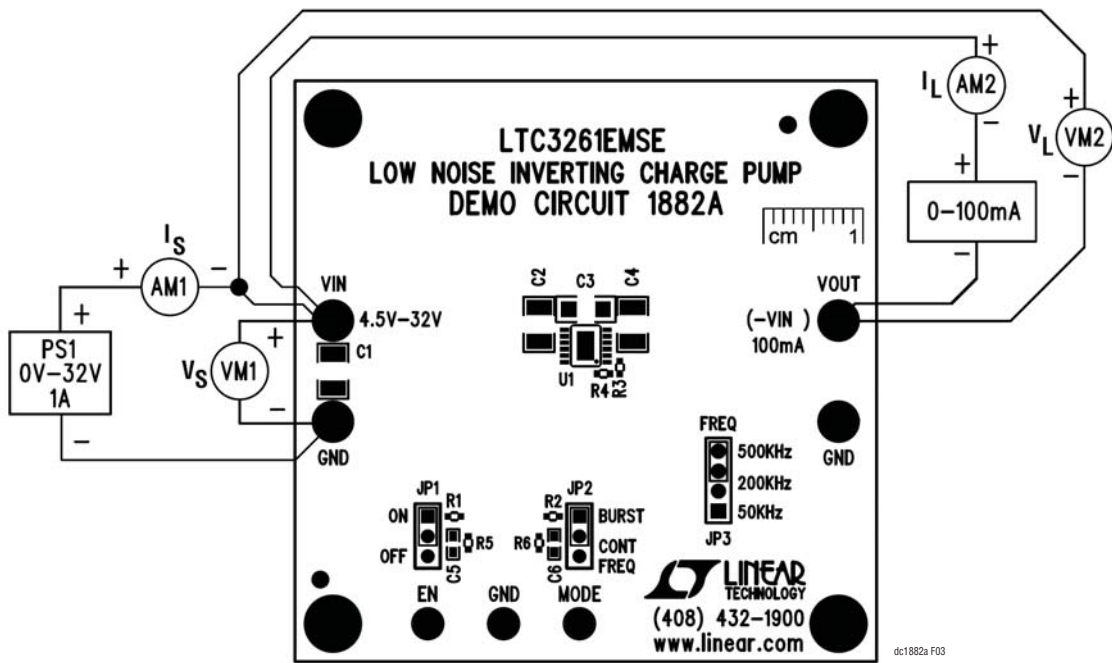

Figure 3. Power Conversion Efficiency Measurement Setup
13. Set up the load, AM2 and VM2, for the power conversion efficiency measurement, as illustrated in Figure 3.